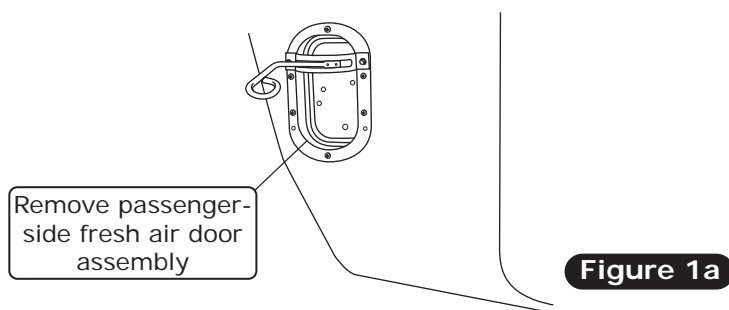

Figure 1a
7. Remove the passenger-side fresh air door assembly (discard) (retain screws) (See Figure 1a, below).